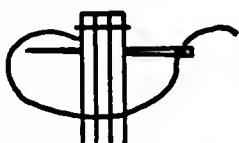

Fig. 76. A swing (French) tack.
- C. Buttonhole around these threads for the entire length, keeping the stitches close together (Fig. 76). Sometimes a blanket stitch is substituted for the buttonhole stitch.